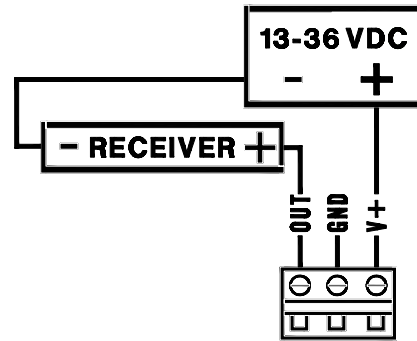
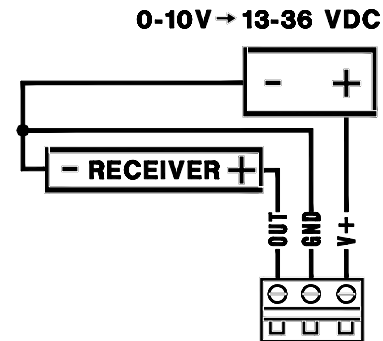

Figure 1
Figure 2
5. Proceed with wiring according to Figure 1 or Figure 2.
The Series BTT Temperature Transmitter can be ordered for current or voltage outputs. For current output models, the supply power must be between 13-36 VDC and the unit should be wired as shown in Figure 1.
For voltage output models, the power requirement must be between 13-36 VDC or 16-28 VAC. The unit should be wired as shown in Figure 2.